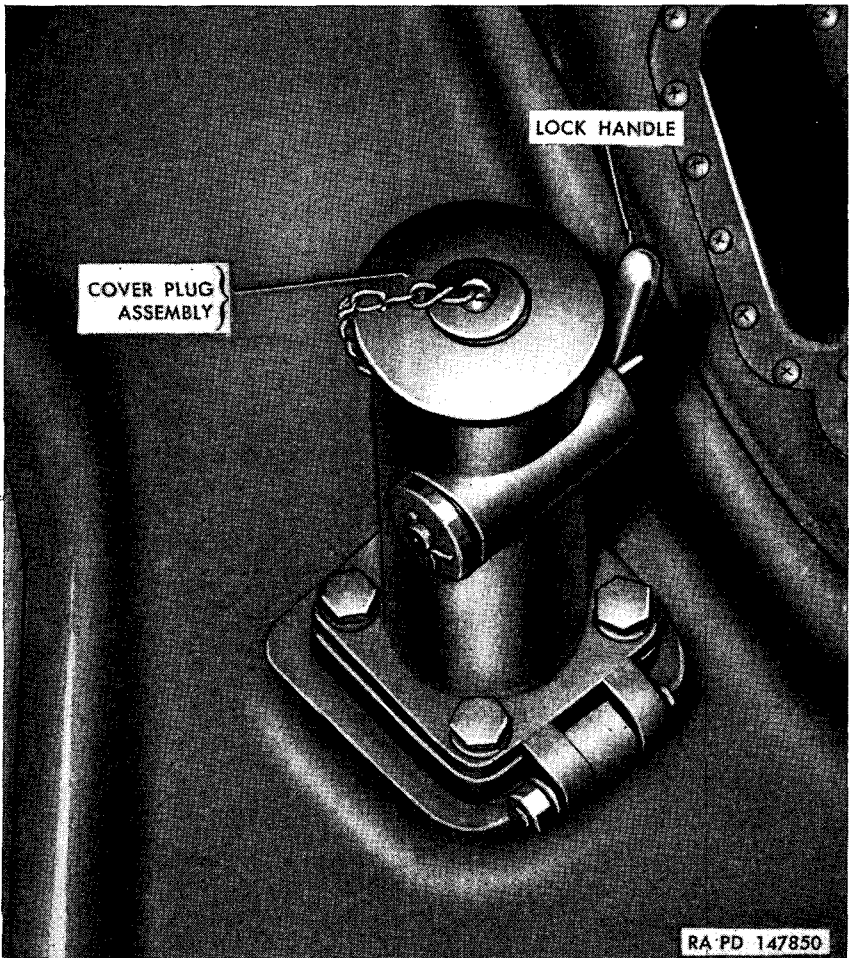
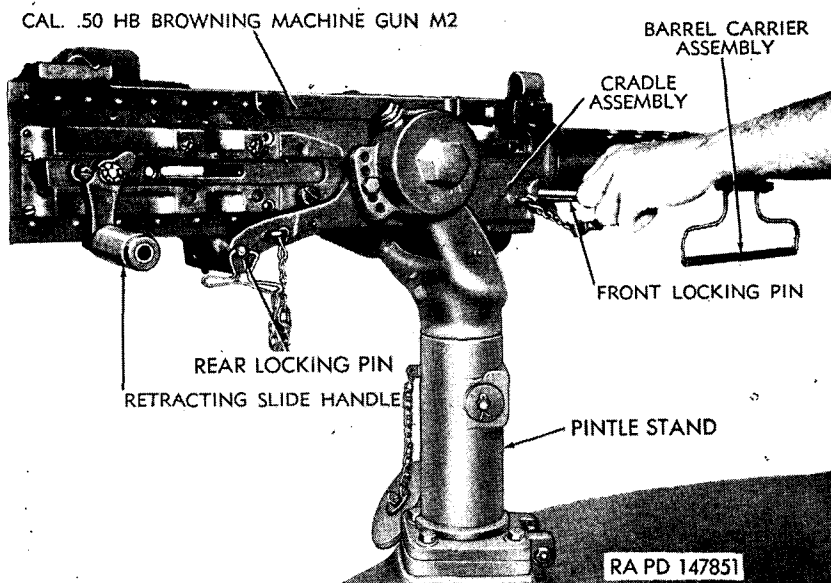

Figure 352. Turret machine gun pintle stand.
Figure 353. Installing cal. .50 HB Browning machine gun M2 on mount.
a. **INSTALLATION.** Remove cover plug assembly from pintle stand (fig. 352). Place pintle lock in open position (handle down). Insert pintle of gun mount in pintle stand and lock (handle up). Place the cal. .50 HB Browning machine gun M2 in the cradle assembly of the mount and align the front and rear mounting holes in the machine gun and mount (fig. 353). Insert the front and rear fastening pins (fig. 353).